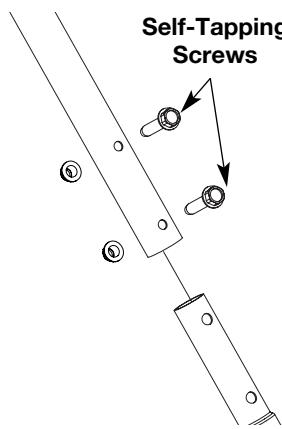

Fig. 1
2. Place the 2-holed end of the straight metal shaft over the shaft base on the unit and align the holes (Fig. 1).
3. Insert the two self-tapping screws ($1/4'' \times 1-1/4''$) into these holes (Fig. 1).